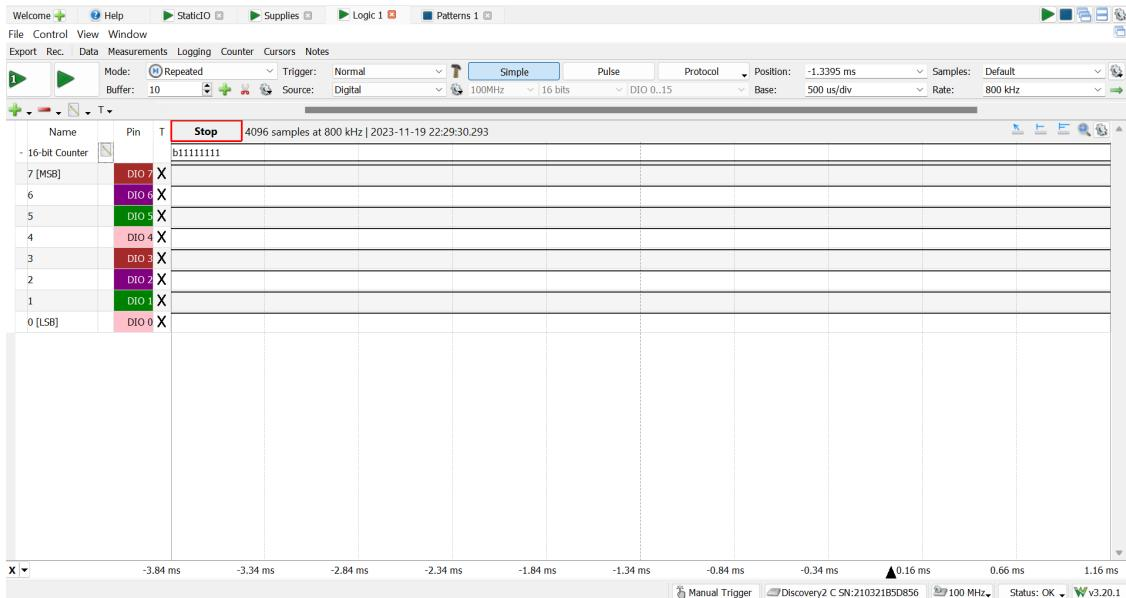

Figure 17: Setup of DIO output pins on Logic to read output (value) from counter
- On WaveForm's Logic app, I set up DIO pins 0-7 in the BUS signal form, with 7 as the Most Significant Bit (MSB) and DIO 0 as the Least Significant Bit (LSB) mapped as seen in Figure 17
At a binary value of 11111111 (seen in Figure 17), or 255 in decimal form, the counter overflowed and just reset back to 00000000 (0 in decimal form) and continued counting again.